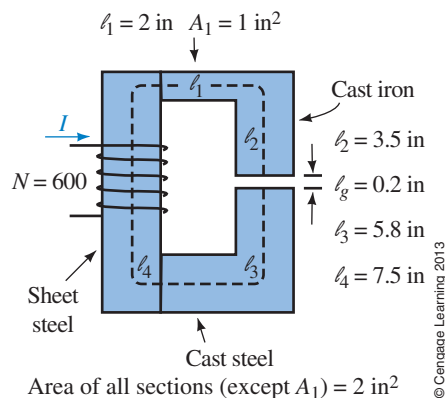

FIGURE 12-52
22. For the circuit of Figure 12-52, $\Phi = 25,000$ lines. The stacking factor for the sheet steel portion is 0.95. Find current I .
23. A second coil of 450 turns with $I_2 = 4$ amps is wound on the cast steel portion of Figure 12-52. Its flux is in opposition to the flux produced by the original coil. The resulting flux is 35,000 lines in the counterclockwise direction. Find the current I_1 .